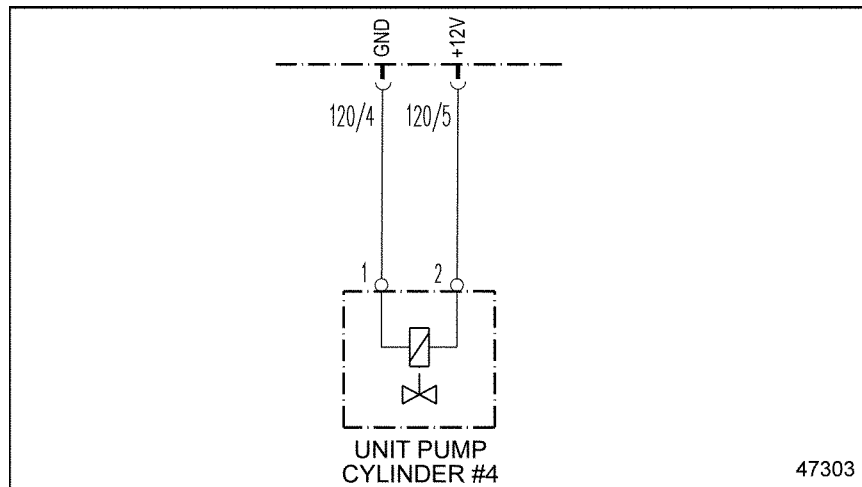

Figure 48-1 Electronic Unit Pump #4
2. Measure the voltage between pins 1 and 2 of Electronic Unit Pump #4. See Figure 48-1.